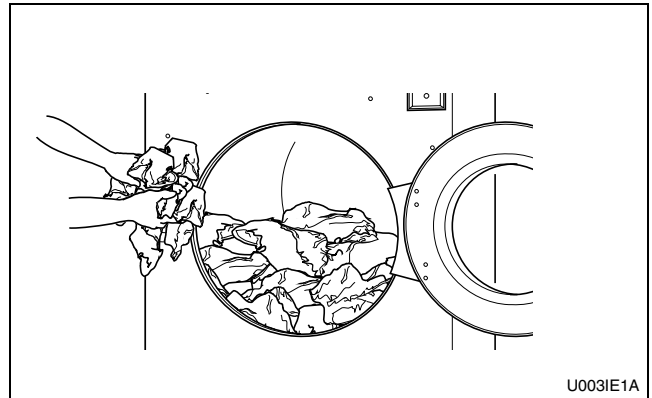

Figure 18
3. Load to capacity whenever possible. DO NOT OVERLOAD. Refer to *Figure 18*.